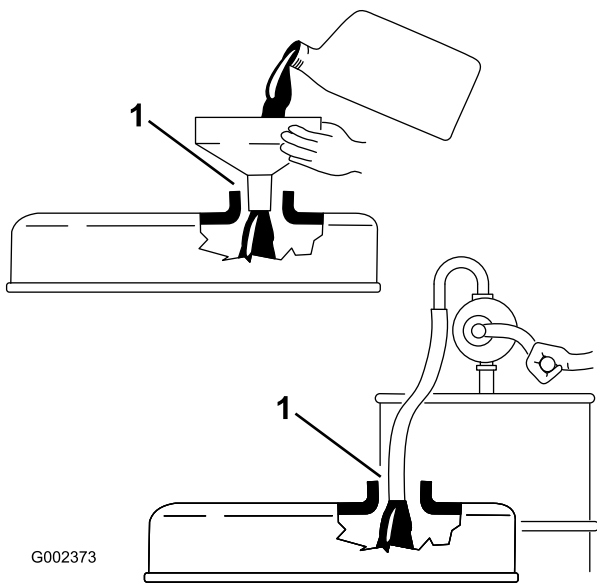

Figure 16
**Important:** When adding engine oil or filling oil, there must be clearance between the oil fill device and the oil fill hole in the valve cover as shown in Figure 16. This clearance is necessary to permit venting when filling, which prevents oil from overrunning into the breather.